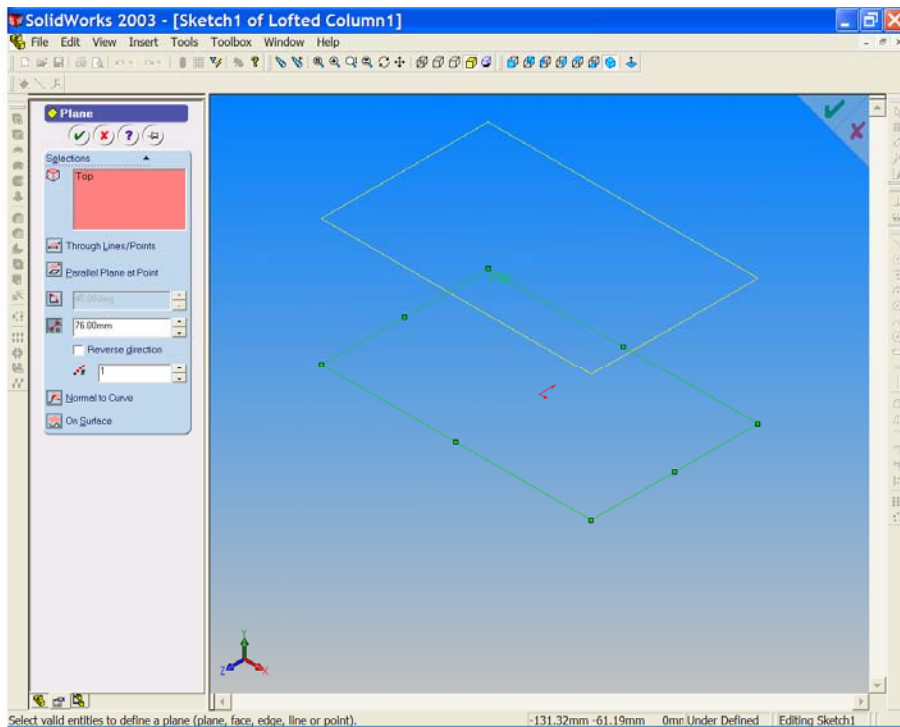

Figure 7
16. Hold down the control key and create a new plane parallel to the Top Plane and at a distance of 76mm above it. See Figure 7.